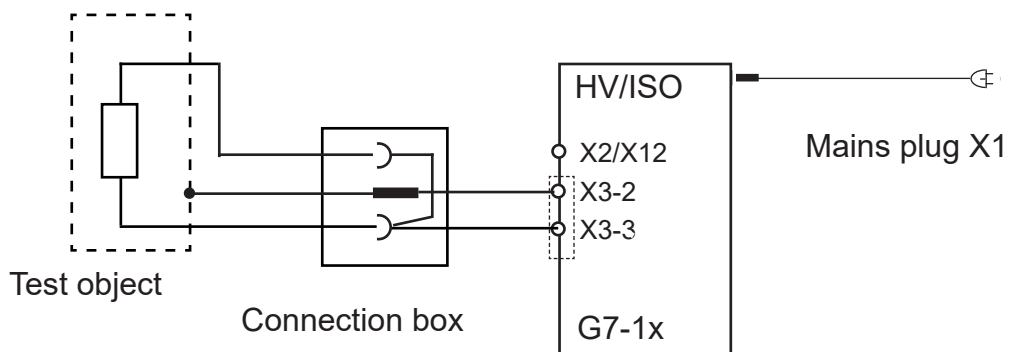

Fig. 3.2c: Principle of connection via box (only permissible by using a two hand control unit).
**Attention:** The principle of connection according fig. 3.2c, is only permissible by using a two hand control unit (ELABO order nummer F9-1L).